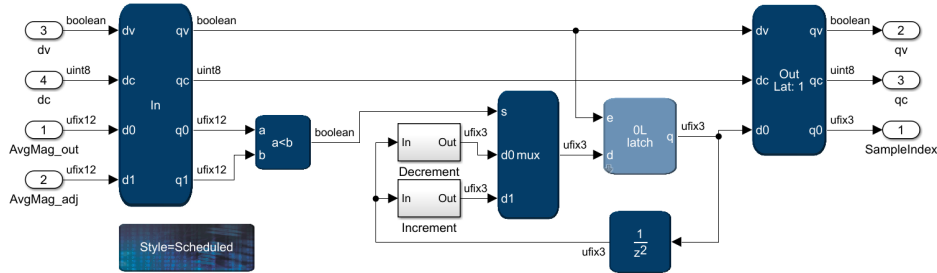

Figure 6: Contents of the the *IndexUpdate* subsystem
- Add a *CmpLT*, a *Mux*, a *SampleDelay* and a *latch_0L* block, and connect them according to Fig. 6. The *Mux* will select which of the d0 or d1 inputs that will be connected to the output, based on the value of the s input. Open the parameter settings for the *SampleDelay* and check the **Minimum delay** box. This setting will let DSP Builder automatically choose a delay so that the design can be pipelined properly.